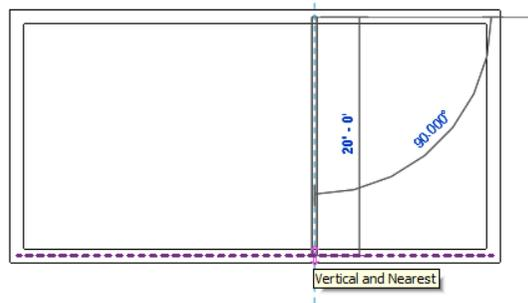

Figure 3-57 Specifying the endpoint of the first interior wall segment
3. Next, move the cursor vertically downward near the lower exterior wall segment. When the **Vertical and Nearest** symbol appears, as shown in Figure 3-57, click to specify the location of the endpoint of the wall segment; the first interior wall segment is sketched.